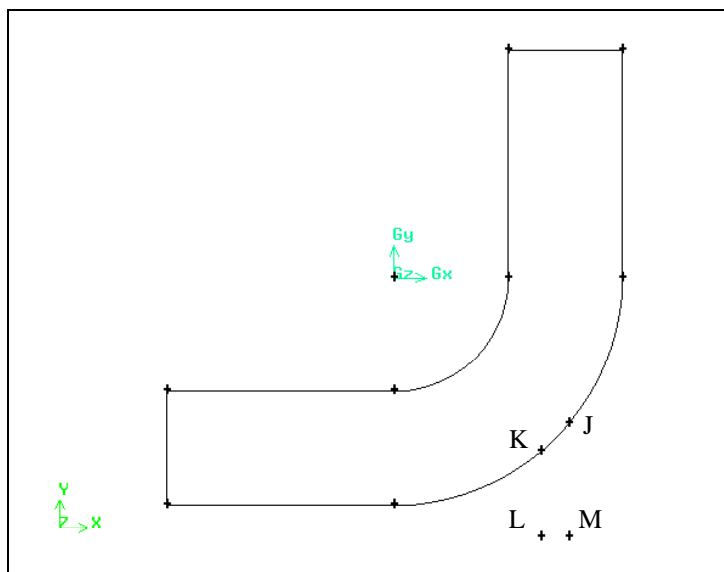

Figure 2-11: Vertices to be used to create small pipe
- a) Create straight edges for the small pipe by selecting the vertices marked K, L, M, and J in Figure 2-11, in order, and accepting the selection.